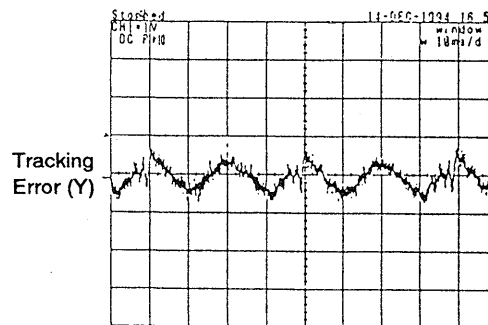

Fig. 8-2. Play Mode
- The above checking uses basically the reference disc, and if no particular abnormality is found, a failure which occurs in the user's disc only may be present. Especially, in the case of LD, if a wavy tracking error as shown in Fig. 8-2 appears, the pick-up is resonating. Replace it with a new one.